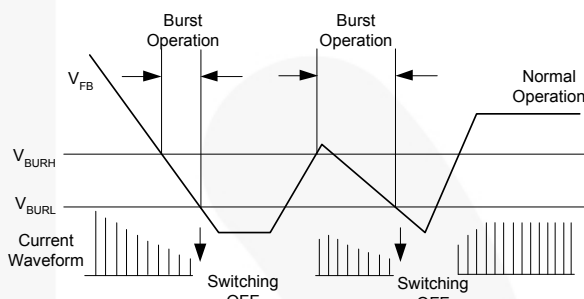

Figure 17. Burst Operation Function
6. Burst Operation: To minimize power dissipation in Standby Mode, the FPS enters Burst Mode. Feedback voltage decreases as the load decreases and, as shown in Figure 17, the device automatically enters Burst Mode when the feedback voltage drops below V_{BURH} (typically 600mV). Switching continues until the feedback voltage drops below V_{BURL} (typically 400mV). At this point, switching stops and the output voltage starts to drop at a rate dependent on the standby current load. This causes the feedback voltage to rise. Once it passes V_{BURH} , switching resumes. The feedback voltage then falls and the process is repeated. Burst Mode alternately enables and disables switching of the SenseFET and reduces switching loss in Standby Mode.